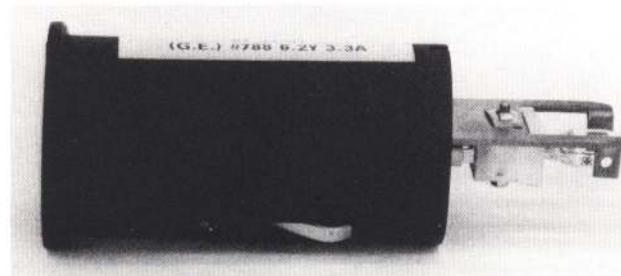

FIG. 7-9 - SOCKET ASS'Y
1. Remove socket assembly from rear of base by pulling on flange (Fig. 7-9).